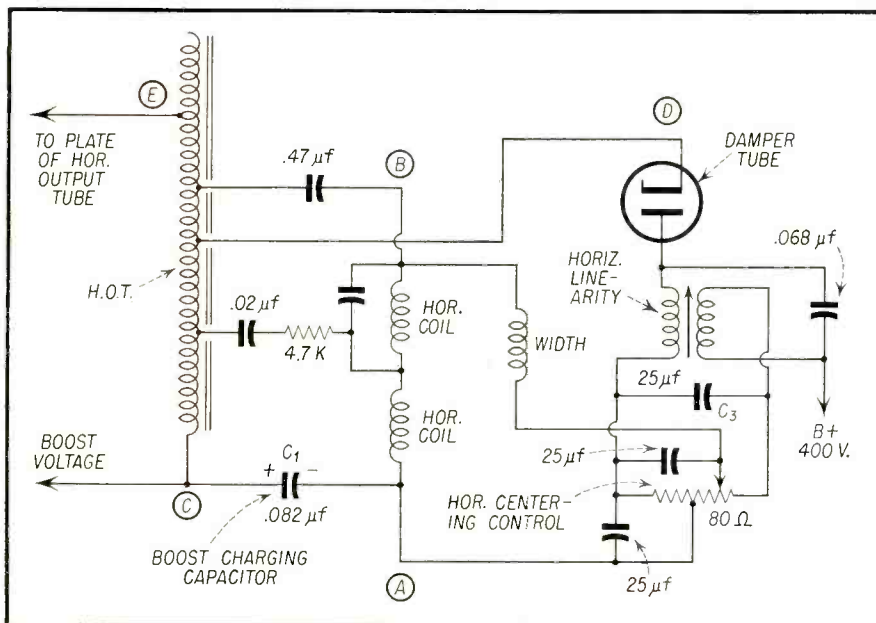

Fig. 15 — Partial schematic of a damper circuit in a typical color receiver.
volts from the horizontal output transformer as compared to about 2,000 volts in a B & W receiver. In Fig. 15 it will be noted that a tap on the horizontal auto-transformer connects to the cathode of the damper tube. Also, the plate of the damper tube is connected to $B-400\text{ V}$ through the horizontal linearity and centering circuits.
A simplified version of Fig. 15 for the purpose of studying the damping action is shown in Fig. 16. The damper circuit primarily rectifies and smoothes out the undesired transient voltages that are set up in the deflection system immediately following retrace time. In review, this action is as follows. When the signal at the grid of the horizontal output tube goes sharply negative as shown between t_2 and t_3 in Fig. 17 (A) the corresponding plate current drops sharply as shown in (B). Notice that the plate current of the tube is cut off and remains that way during the retrace period. This sharp drop in plate current induces a high positive pulse of several thousand volts at the plate of the output tube as shown between t_2 and t_3 in (C). The amplitude and phase of this pulse is shown with reference to the 600 volt dc potential applied to the plate.